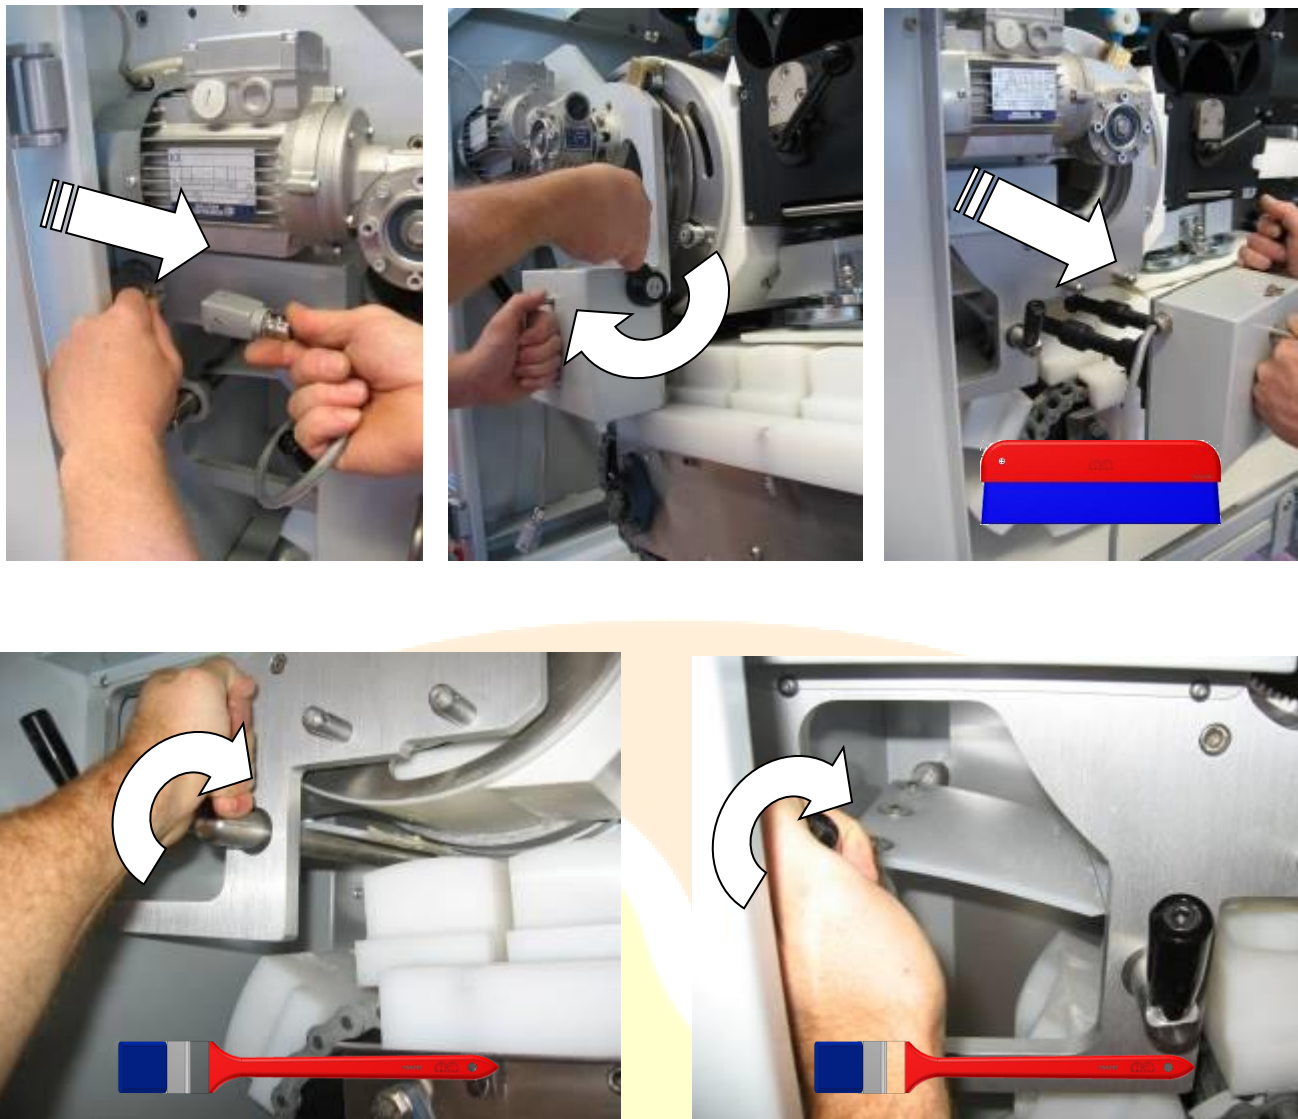

Figure 36 - Cleaning the dough removing rollers and drum scraper
The dividing drum is kept clean externally by a pair of scrapers, accessible after removing the dough removing roller unit (Figure 1 ref. 5) following the operations illustrated in the first three images below (Figure 36). Then, carefully clean the Teflon-coated cylinders of the dough removing roller unit and remove the dough build-up present in the scrapers of the dividing drum (last two images). To clean the Teflon-coated cylinders of the dough removing roller unit, use the brush supplied and a clean cloth. The use of abrasive or sharp elements that may compromise the non-stick surface treatment IS PROHIBITED. For scrapers, on the other hand, it is sufficient to activate the rotation levers as shown in the images.